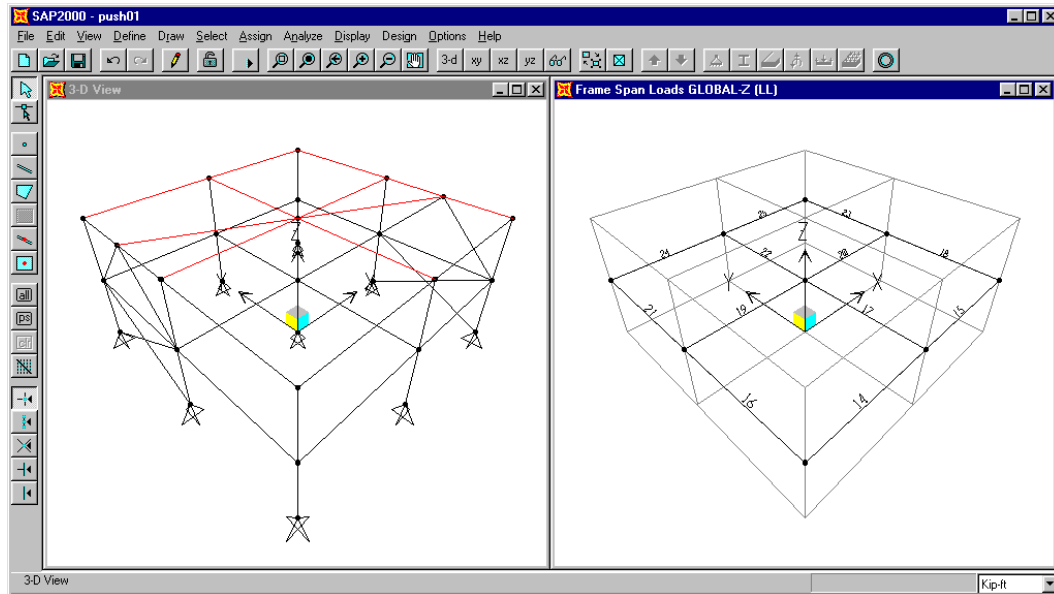

Figure C-17: 3-D View With Limits Set To Show Second Level
42. Click on the **3-D View** button  to change the view to a three dimensional view. See Figure C-17.